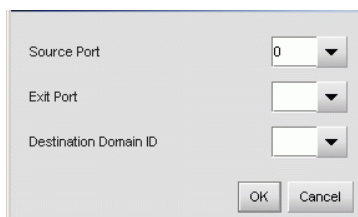

Figure 2-46 Add Preferred Path Dialog Box
- Click *Add*. The *Add Preferred Path* dialog box displays (Figure 2-46).